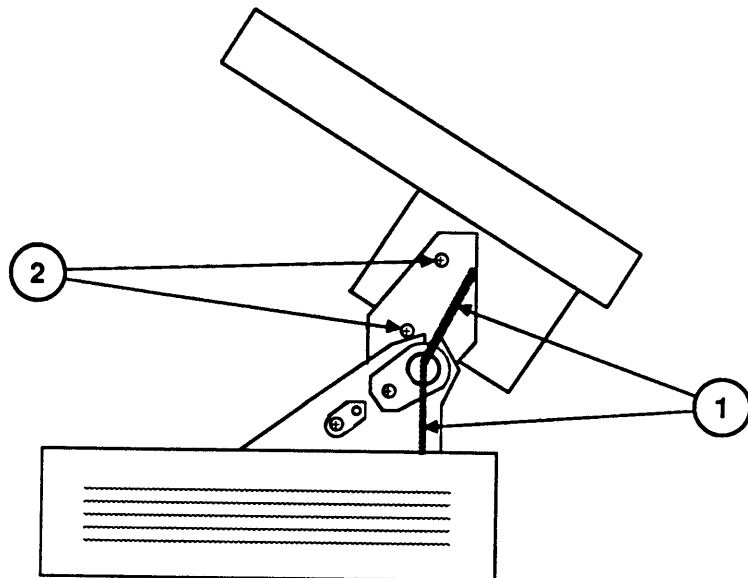

FIGURE 2-57
- the green grounding wire is pulled **around and under** the torsion bars (Figure 2-57, #1)
2. While one person holds the upper main body in place, the other should replace the four to six screws (two or three on each side) that secure the upper main body to the lower main body (Figure 2-57, #2).